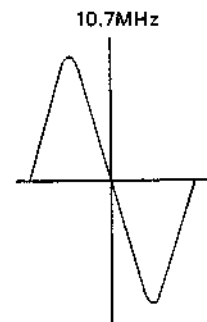

Fig. 26
1. Adjust the T801,807,809,810, of FM IFT so that the response of the "S" curve may become maximum and symmetric. (Fig. 26)